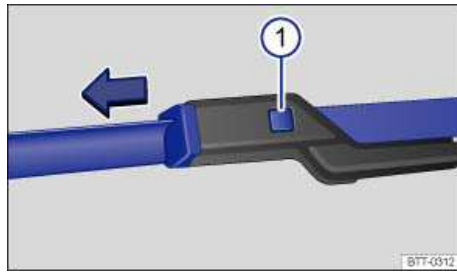

Fig. 172 Changing the windshield wiper blades.
- ☐ Press and hold the release button ⇒ fig. 172 \(1\).